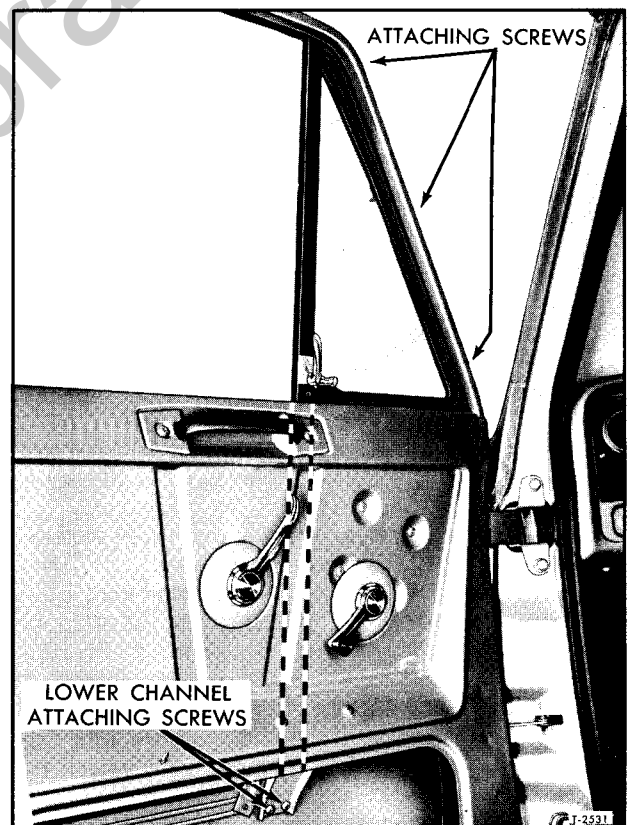

Figure 23—Vent Window Attachment
3. Referring to figure 23, remove lower two channel retaining screws from door inner panel bracket.
4. Referring to figure 23, remove three screws which attach vent framing to door.
portion of vent assembly to door inner panel bracket (fig. 23).
4. Referring to figure 23, install three screws to attach vent frame to door structure.